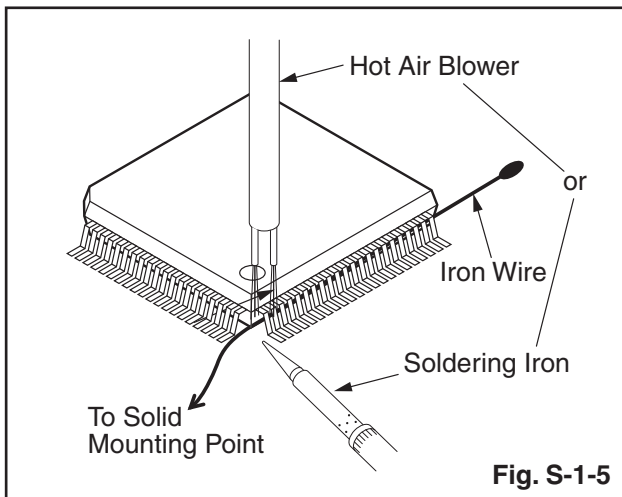

Fig. S-1-5
2. Affix the wire to a workbench or solid mounting point, as shown in Fig. S-1-5.
3. While heating the pins using a fine tip soldering iron or hot air blower, pull up the wire as the solder melts so as to lift the IC leads from the BOARD contact pads as shown in Fig. S-1-5.